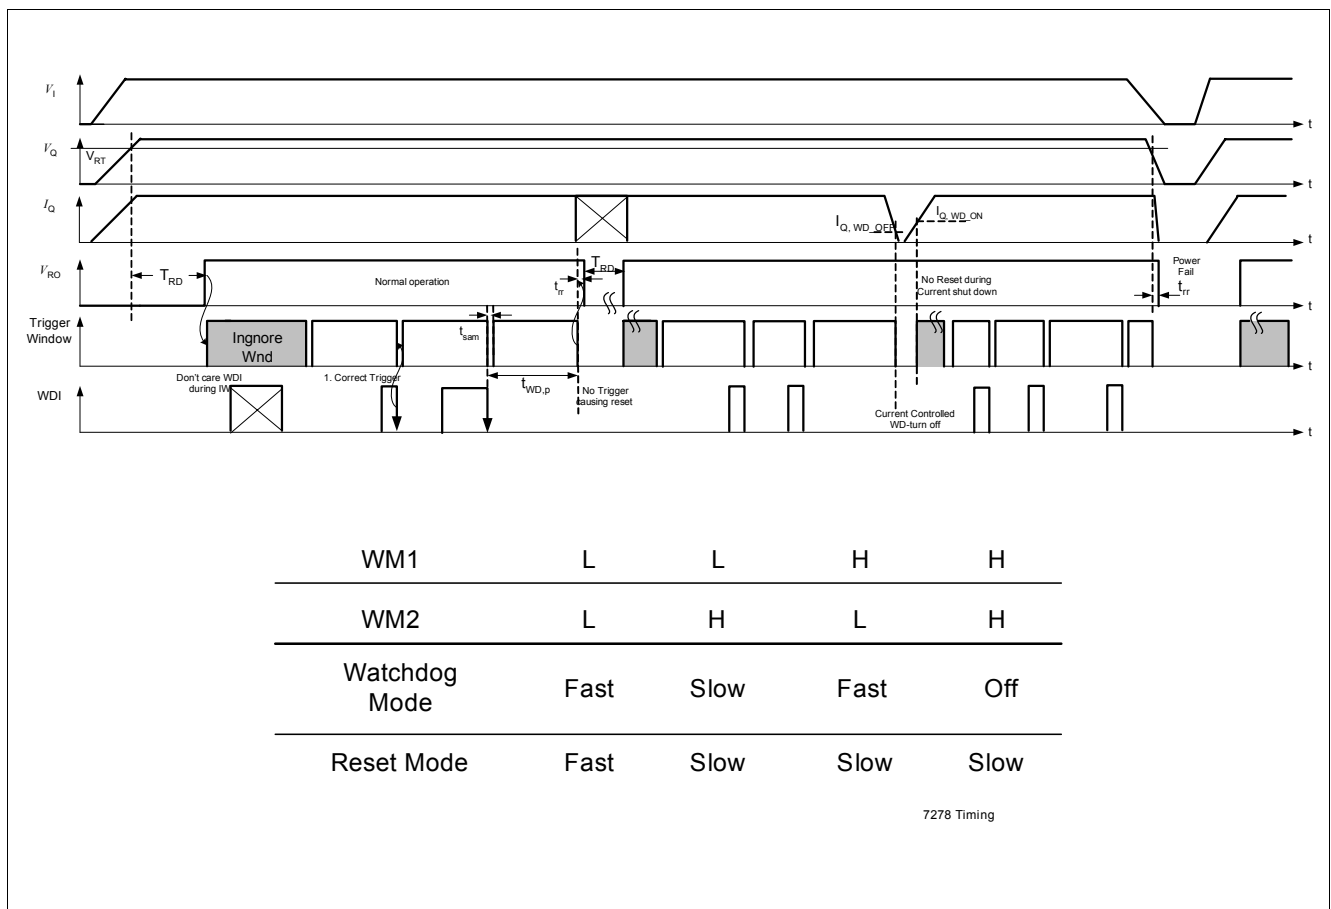

Figure 4 Watchdog Timing Diagram, Watchdog and Reset Modes
The watchdog uses a fraction of the charge pump oscillator's clock signal as timebase. The watchdog timebase can be adjusted using the pins WM1 and WM2 (see **Figure 4**). The watchdog can be turned off setting WM1 and WM2 to high level. The timing values used in this text refer to typ. values with WM1 and WM2 connected to GND (fast watchdog and reset timing).
Figure 4 shows the state diagram of the watchdog (WD) and the mode selection. After power-on, the reset output signal at the RO pin (microcontroller reset) is kept LOW for the reset delay time T_{RD} of typ. 16 ms. With the LOW to HIGH transition of the signal at RO the device starts the ignore window time t_{CW} (32 ms). Next the WD starts the Watchdog Period (time frame within a trigger at WDI must occur). From now on the timing of the signal on WDI from the micro controller must correspond the WD-Period $t_{WD,p}$ correspondent the electrical characteristics and based on the setting on the WM pins. A Re-Trigger of the WD-Period is done with a HIGH-to-LOW Transient at the WDI-pin within the set $t_{WD,p}$.